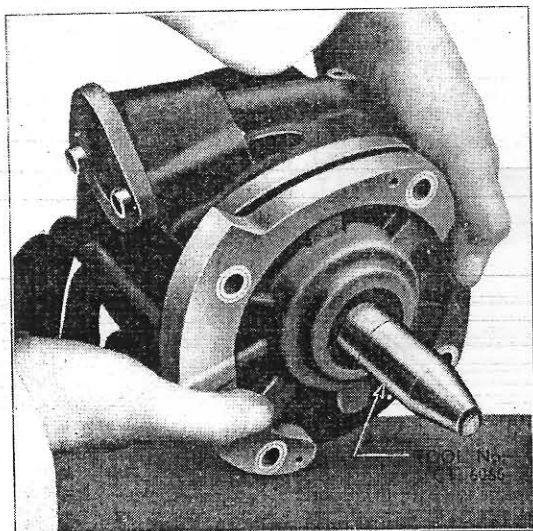

Fig. 9
8. Fit the seal guide (Tool No. CT.6066) over the end of the exhauster shaft to protect the seal and fit the drive end plate in position. (See Fig. 9.)